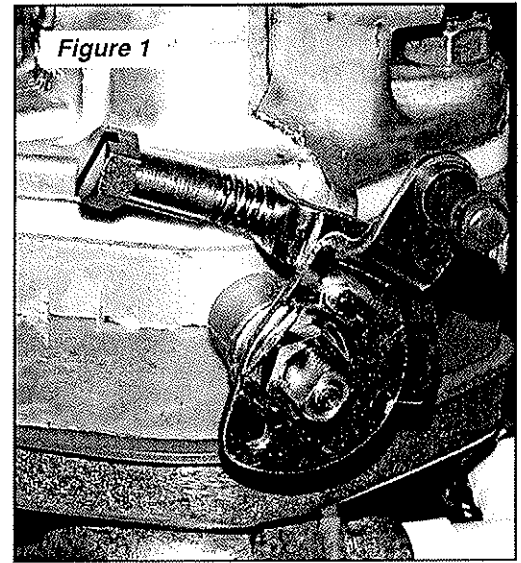

Figure 1
1. Remove the throttle levers included on each carburetor and install the throttle levers in the hardware kit (See **Figure 1**). Re-install throttle shaft nuts on each carburetor. (**DO NOT OVER TIGHTEN NUTS, 4-5 FT/LBS MAXIMUM**). Bend lock tab against nut to hold nut tight.